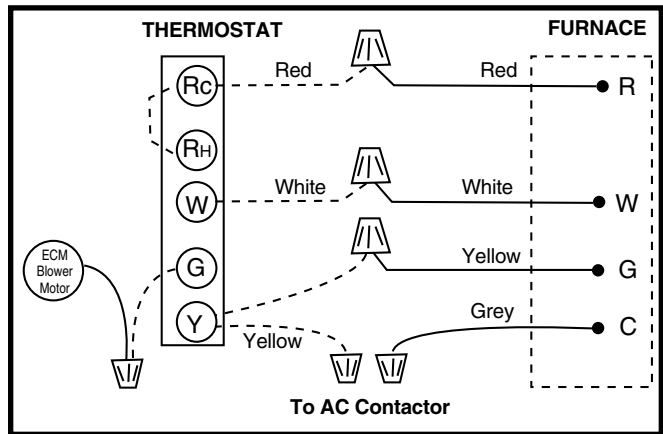

Figure 25. Thermostat Wiring
Proper line voltage polarity must be maintained in order for the control system to operate correctly. Verify the incoming neutral line is connected to the white wire and the incoming “hot” line is connected to the black wire. The furnace will not operate unless the polarity and ground are properly connected as shown in **Figure 25 (page 13)**.
2. Connect the thermostat wires to the furnace low voltage pigtails (dependent on the installation application). See Figure 25 \(page 13\). **NOTE:** If AC is installed with the furnace, a Y connection is required to be made at the furnace. See Figure 31 \(page 25\).